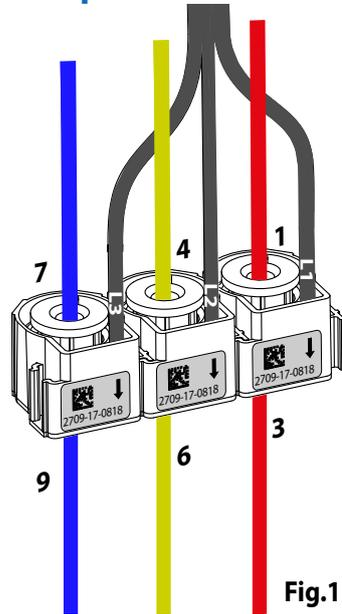

Fig.1
La sequenza corretta delle Fasi di Corrente è: **1.3 4.6 7.9** come indicato in Fig.1
The correct sequence of the Current Phases is: 1.3 4.6 7.9, as shown in Fig.1
La séquence correcte des Phases Actuelles est: 1.3 4.6 7.9, comme indiqué sur la Fig.1
1.3 4.6 7.9, wie in Fig.1
La secuencia correcta de las Fases Corriente es: 1.3 4.6 7.9, como se muestra en la Fig.1